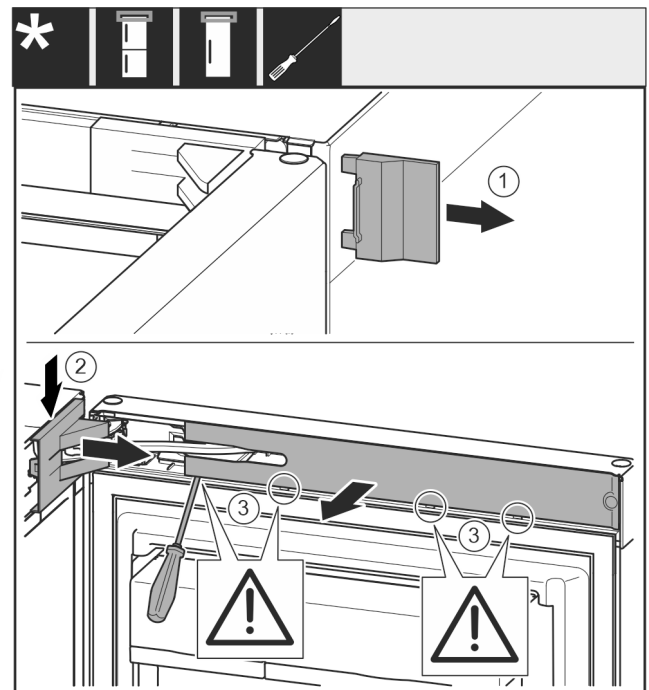

Fig. 8
- Remove cover Fig. 8 (1).
- Disengage and loosen the swap bearing block cover Fig. 8 (2).
- Remove the swap bearing block cover Fig. 8 (3).
- Use a slotted screwdriver to unlatch the trim Fig. 8 (4) and swing it to the side.